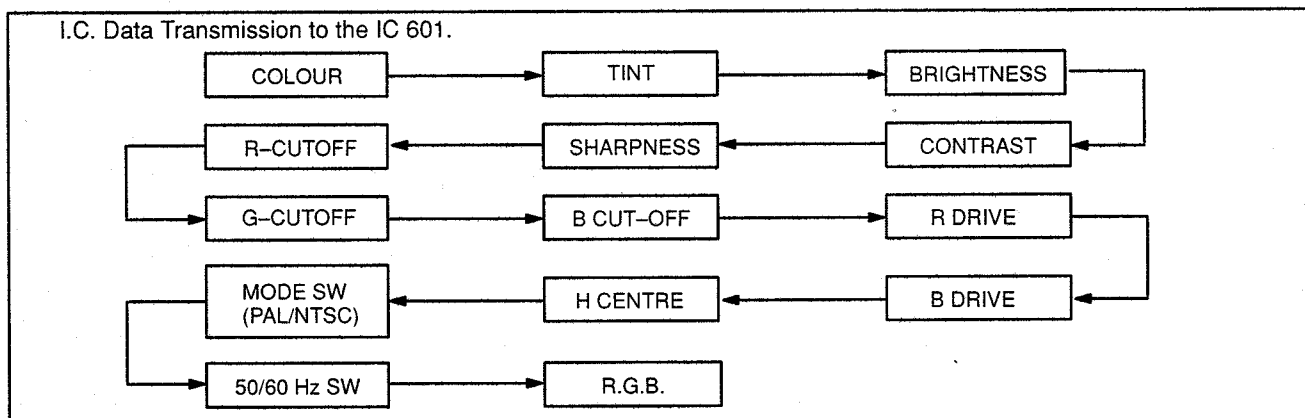

Fig. 4
1. Various control functions are possible via the I²C bus from the microcomputer IC1101 to VCI IC601, as shown in Fig. 4.